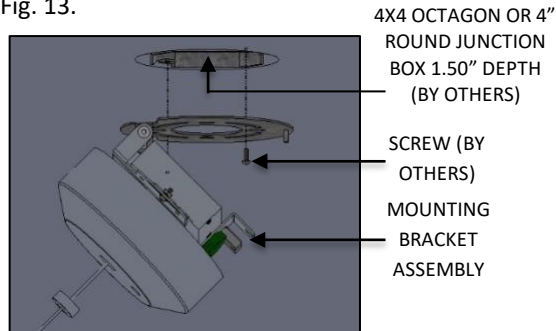

FIG. 12 – MOUNTING BRACKET ASSEMBLY INSTALLATION
3. Attach MOUNTING BRACKET to JUNCTION BOX (by other) as shown below in FIG. 12.